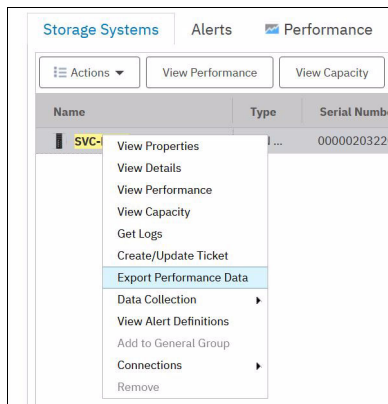

Figure 9-56 Export Performance Data
2. Right-click the storage system and select **Export Performance Data** (see Figure 9-56).